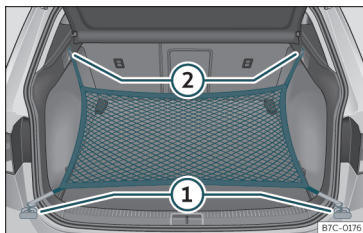

Fig. 144 In the boot: rings ① and hooks ② for attaching the net bag.
- Secure the short net hooks to the fastening rings >>> **Fig. 144** ① >>> ⚠. The bag zip should be facing upwards.
- Secure the straps in the bag hooks ②.